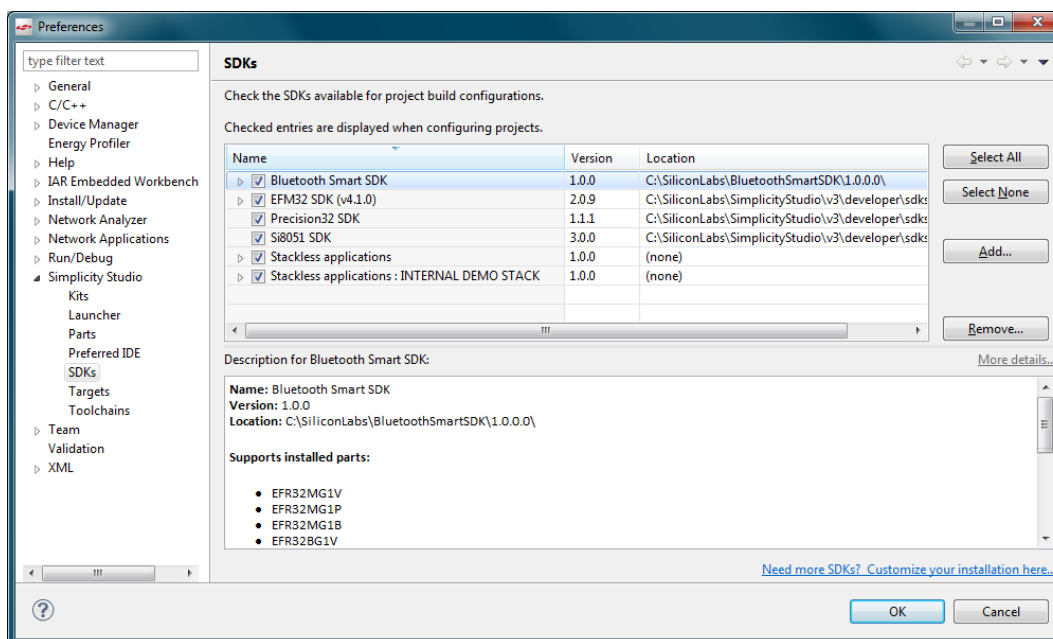

Figure 13. Silicon Labs SDK Configuration
2. In the Preferences window's left frame, click **Simplicity Studio > SDKs** to open the configuration dialog (Figure 13).